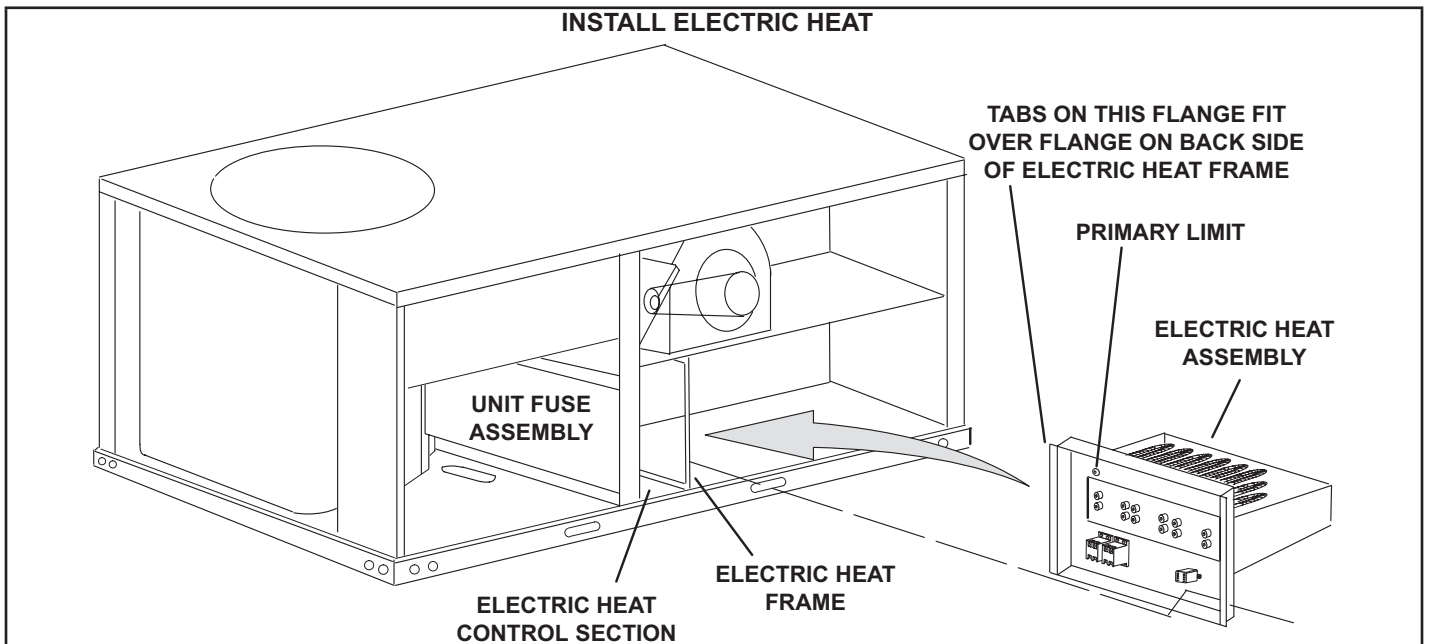

FIGURE 4
- 5 - Replace the primary limit switch on the electric heat / unit combinations shown in TABLE 2. See FIGURE 4.
- 6 - 6- Install electric heat assembly. See FIGURE 4. Secure assembly with sheet metal screws.